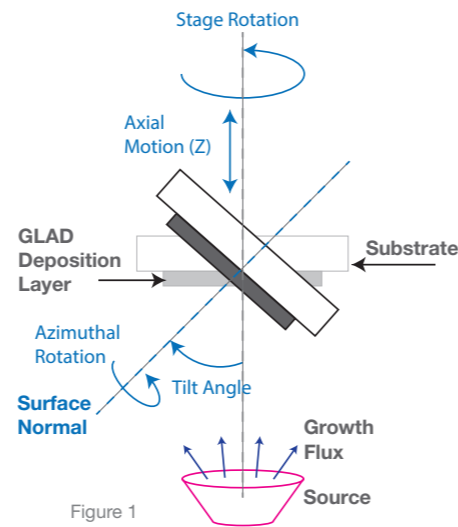

Figure 1
- Continuous azimuthal rotation from 0.1 - 20rpm, but at any tilt angle from zero to +/- 85 degrees. See Figure 1.